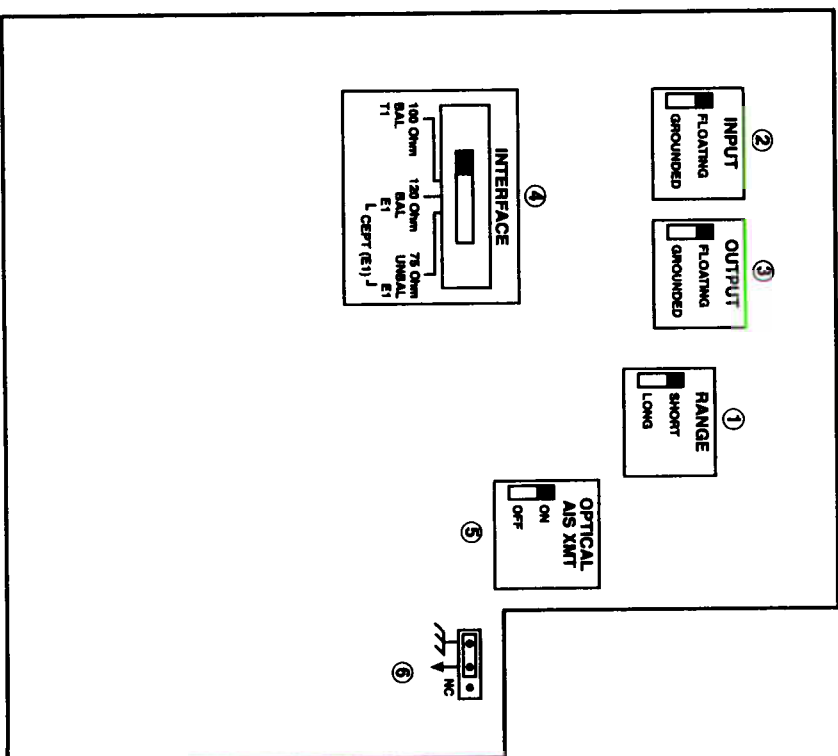

Figure 3-1. Location of Switches and Jumpers.
3. Identify the switches, according to Figure 3-1.
Before installing the Line Driver, set the internal switches according to your application (that is, electrical interface and optical link characteristics). The switches are located on the Line Driver board, as shown in Figure 3-1. Switch functions are also listed in Table 3-2.
The interface jumper (item 4 in Figure 3-1) selects one of three interface options:
Both Input and Output can be individually grounded by means of two 2-position GROUND/FLOATING switches (items 2 and 3 in Figure 3-1).
RANGE (item 1 in Figure 3-1) selects the optical output power coupled to the fiber, depending on the fiber core diameter. Table 3-1 summarizes the optional output power available at the transmitter as a function of the wavelength and the type of fiber used.
In the event of a received optical signal loss, the Line Driver sends an all "ones" signal (AIS) at a nominal frequency of 50 ppm. When the optical signaling switch (item 5 in Figure 3-1) is OFF, the AIS signal is only sent to the electrical interface of the local unit. When the switch is set to ON, an AIS optical signal is also sent to the remote unit via the transmit optical link.
This jumper (item 6 in Figure 3-1) disconnects (NC) or connects the chassis ground to electrical ground.